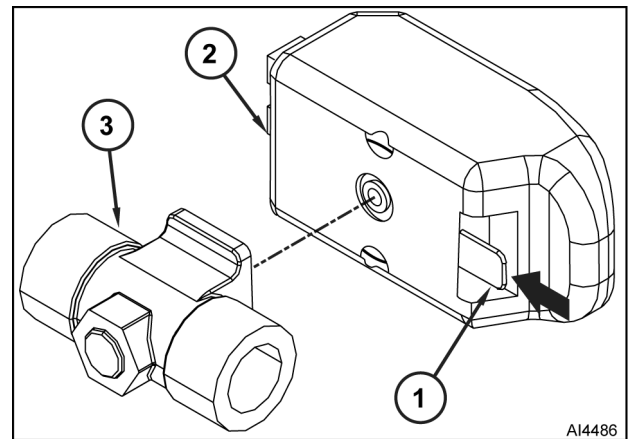

Fig. 48
- Press and hold spring catch (1, Fig. 48) then life motorized control assembly (2, Fig. 48) off valve body (3, Fig. 48).